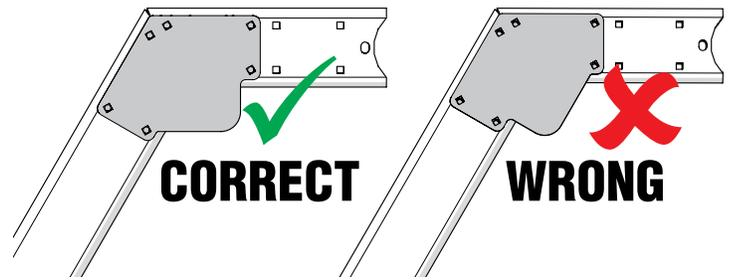

Fig. 3-2
- Place the splice plates on both sides of the joint where the upper and lower frames meet. Refer to Figure 3-2 for visual guidance. The flat edge of each splice plate must be parallel to the upper frame rail.